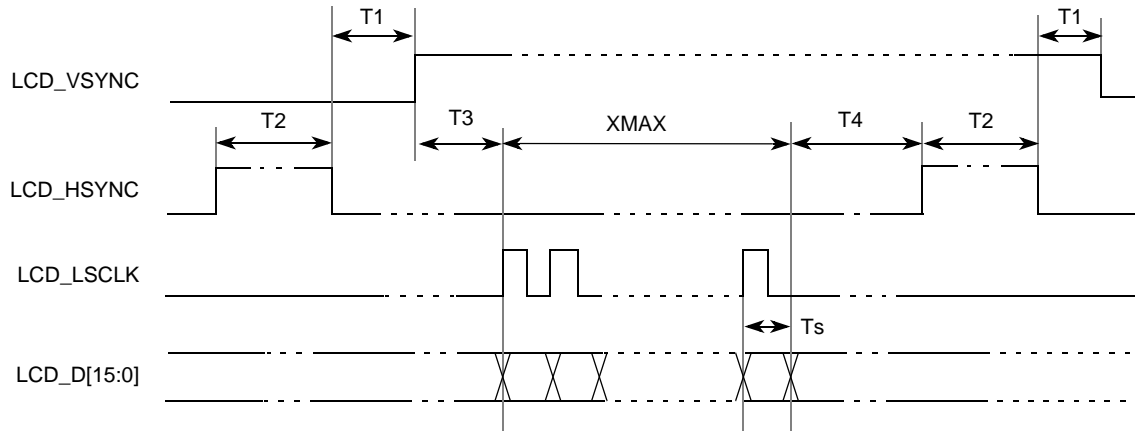

Figure 21. Non-TFT Mode Panel Timing
**Note:** Ts is the LCD\_LSCLK period while Tpix is the pixel clock period. LCD\_VSYNC, LCD\_HSYNC, and LCD\_LSCLK can be programmed as active high or active low. In Figure 21, all these 3 signals are active high. When it is in CSTN mode or monochrome mode with bus width = 1,  $T3 = Tpix = Ts$ . When it is in monochrome mode with bus width = 2, 4 and 8,  $T3 = 1, 2$  and  $4$  Tpix respectively.